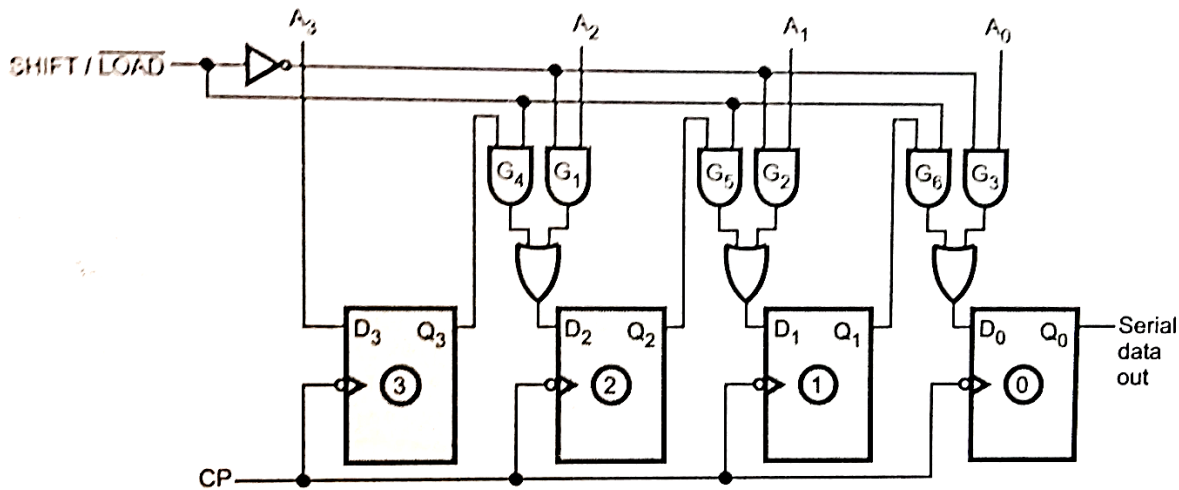

Figure 3.31: Parallel In Serial Out (PISO) Shift Register
- Figure 3.31 illustrates a four-bit parallel in series out register.